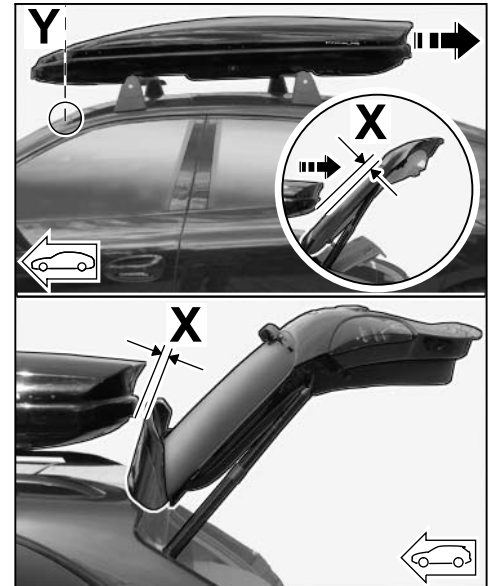

Figure 6
4.8.3 Carefully open the rear lid/tailgate of the vehicle and adjust gap "X" with respect to the roof box 320 (⇒ Figure 6).